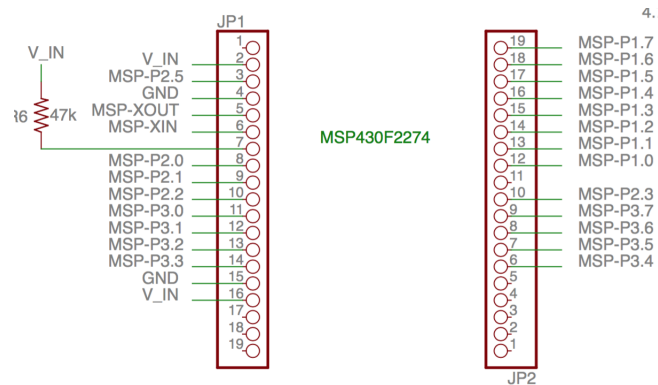
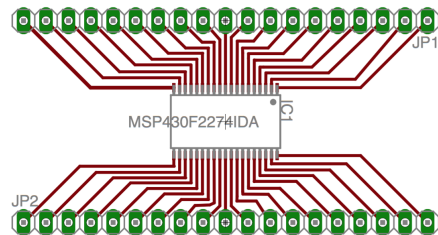

Figure 5: MSP430F2274 Schematic
Figure 7: MSP430 TSSOP-to-DIP PCB Schematic
The MSP430F2274 will act as the main processing/control unit for all peripheral inputs and outputs. All sub-schematics explained below will connect to the MSP430 in some fashion (either as input or output) and the particular connections can be seen in Figure 5. It should be noted that the MSP430 will not be soldered directly to the board, rather a "breakout" board will be utilized for programming/flashing the microcontroller (by using a breadboard with a FET Programmer). This will be used both for debugging stages and the final deliverable. This is shown below in Figure 7.
4. Connect and solder MSP430F2274 to MSP Breakout Board (Figure 7)